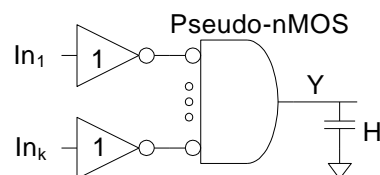

Fig. 13
13. Design an 8-input ($k=8$) AND gate using inverter and pseudo-nMOS NOR gates as shown in Fig. 13. Choose pull-up device size to be $1/3$ and the output loading $H = 64$. (5%)